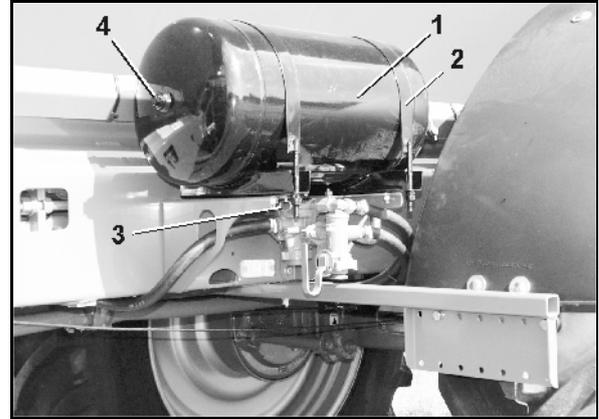

Fig. 90
2. Unscrew the drain valve (Fig. 90/3) from the air reservoir and clean the reservoir if there are signs of dirt.